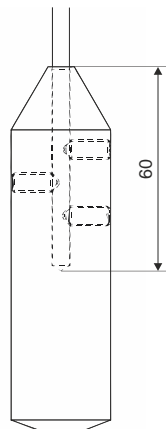

Fig. 13: Drawing of the cable electrode ballast
1. At the cable electrode, it is necessary to loosen three fastening screws on the ballast and to pull out the end of the cable, see fig. 13.